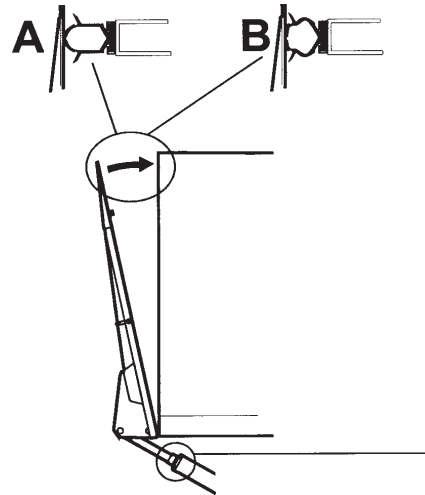
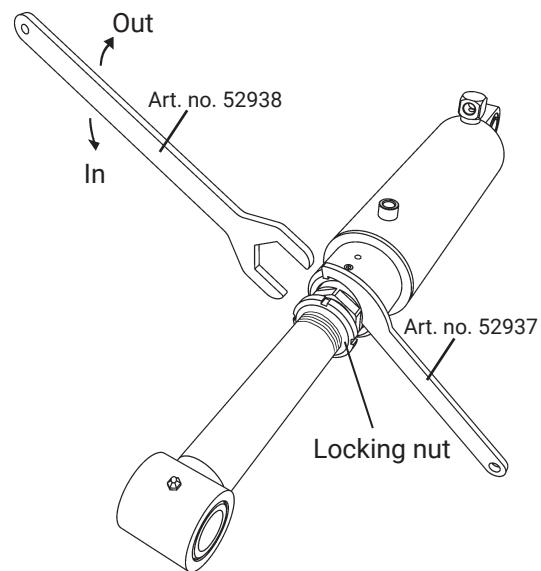

Figure 34. Adjusting the fit to the vehicle body
Figure 35. Adjusting the tilt angle
5. Loosen lock nut, see Figure 35 (Zepro tool 52937).
6. Turn the adjustment collar (spanner width 41mm), as per Figure 35 (Zepro tool 52938), so that the platform fits exactly to the body as per Figure 34 A.
8. Loosen lock nut, see Figure 35.
9. Turn the adjustment collar, as per Figure 35, so that the platform fits exactly to the body as per Figure 34 A.
10. Then adjust both cylinders the last bit alternately so that the platform fits exactly to the body as per Figure 34 B.